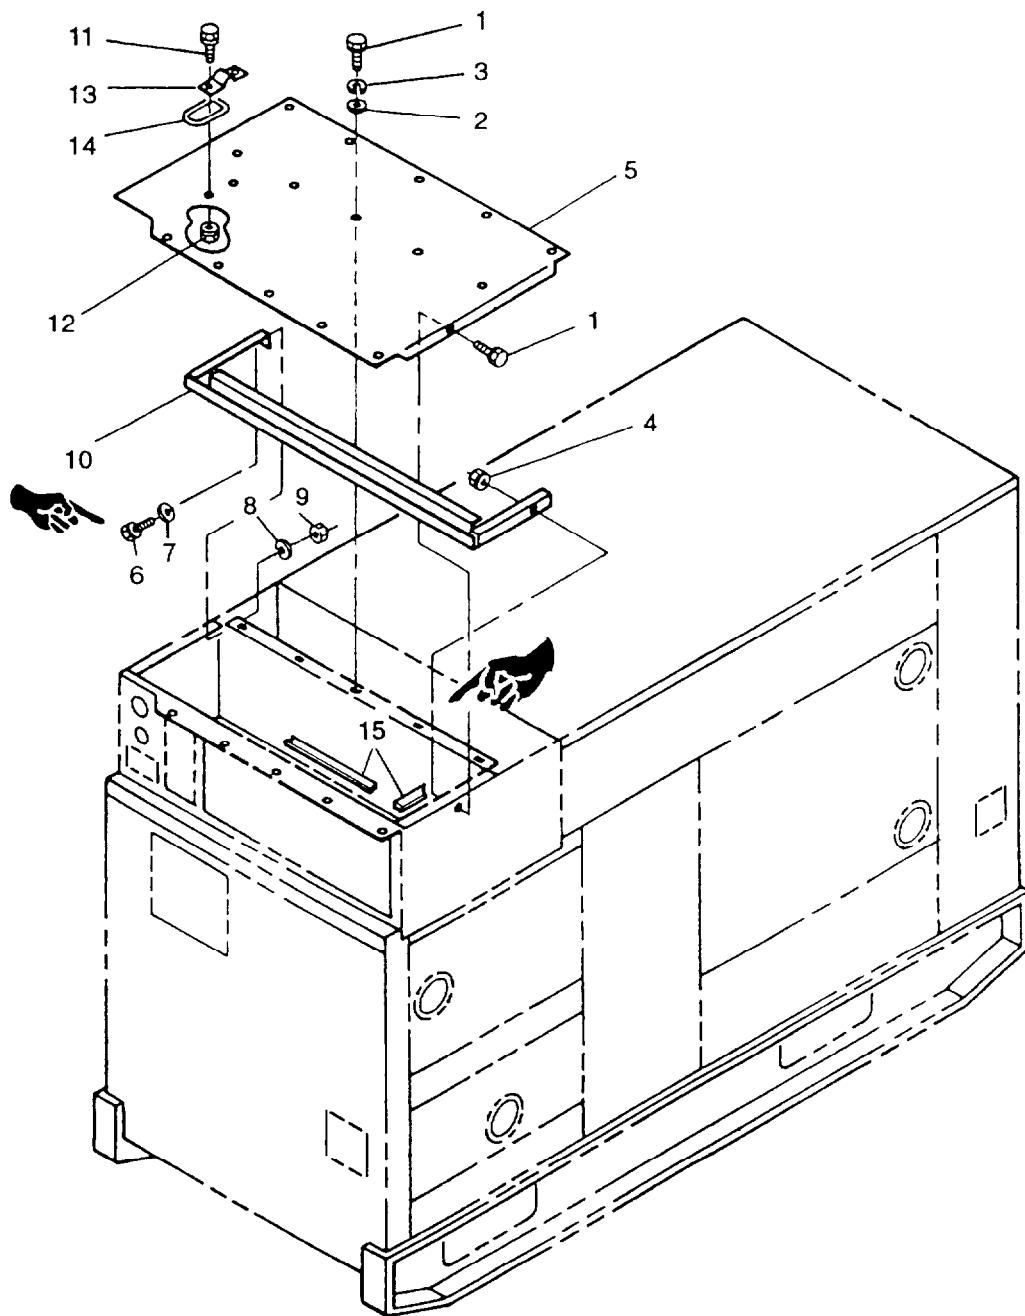

FIGURE 2-6. Control Box Top Panel
- d Lower control panel and remove bolts (1, FIGURE 2-6), flatwashers (2), lockwashers (3), and assembled nuts (4) from top panel (5).
- c Inspect control box top panel (5 FIGURE 2-6) for dents, cracks, loose paint, and corrosion
- c Repaint surfaces in accordance with TM 43-0139. (F) Refer to applicable directives.
- a Install ring (14, FIGURE 2-6) and bracket (13) on control box top panel (5) with bolts (11) and assembled nuts (12).
- b Install stiffener (10) in control box assembly with bolts (6), washers (7), lockwashers (8), and nuts (9).